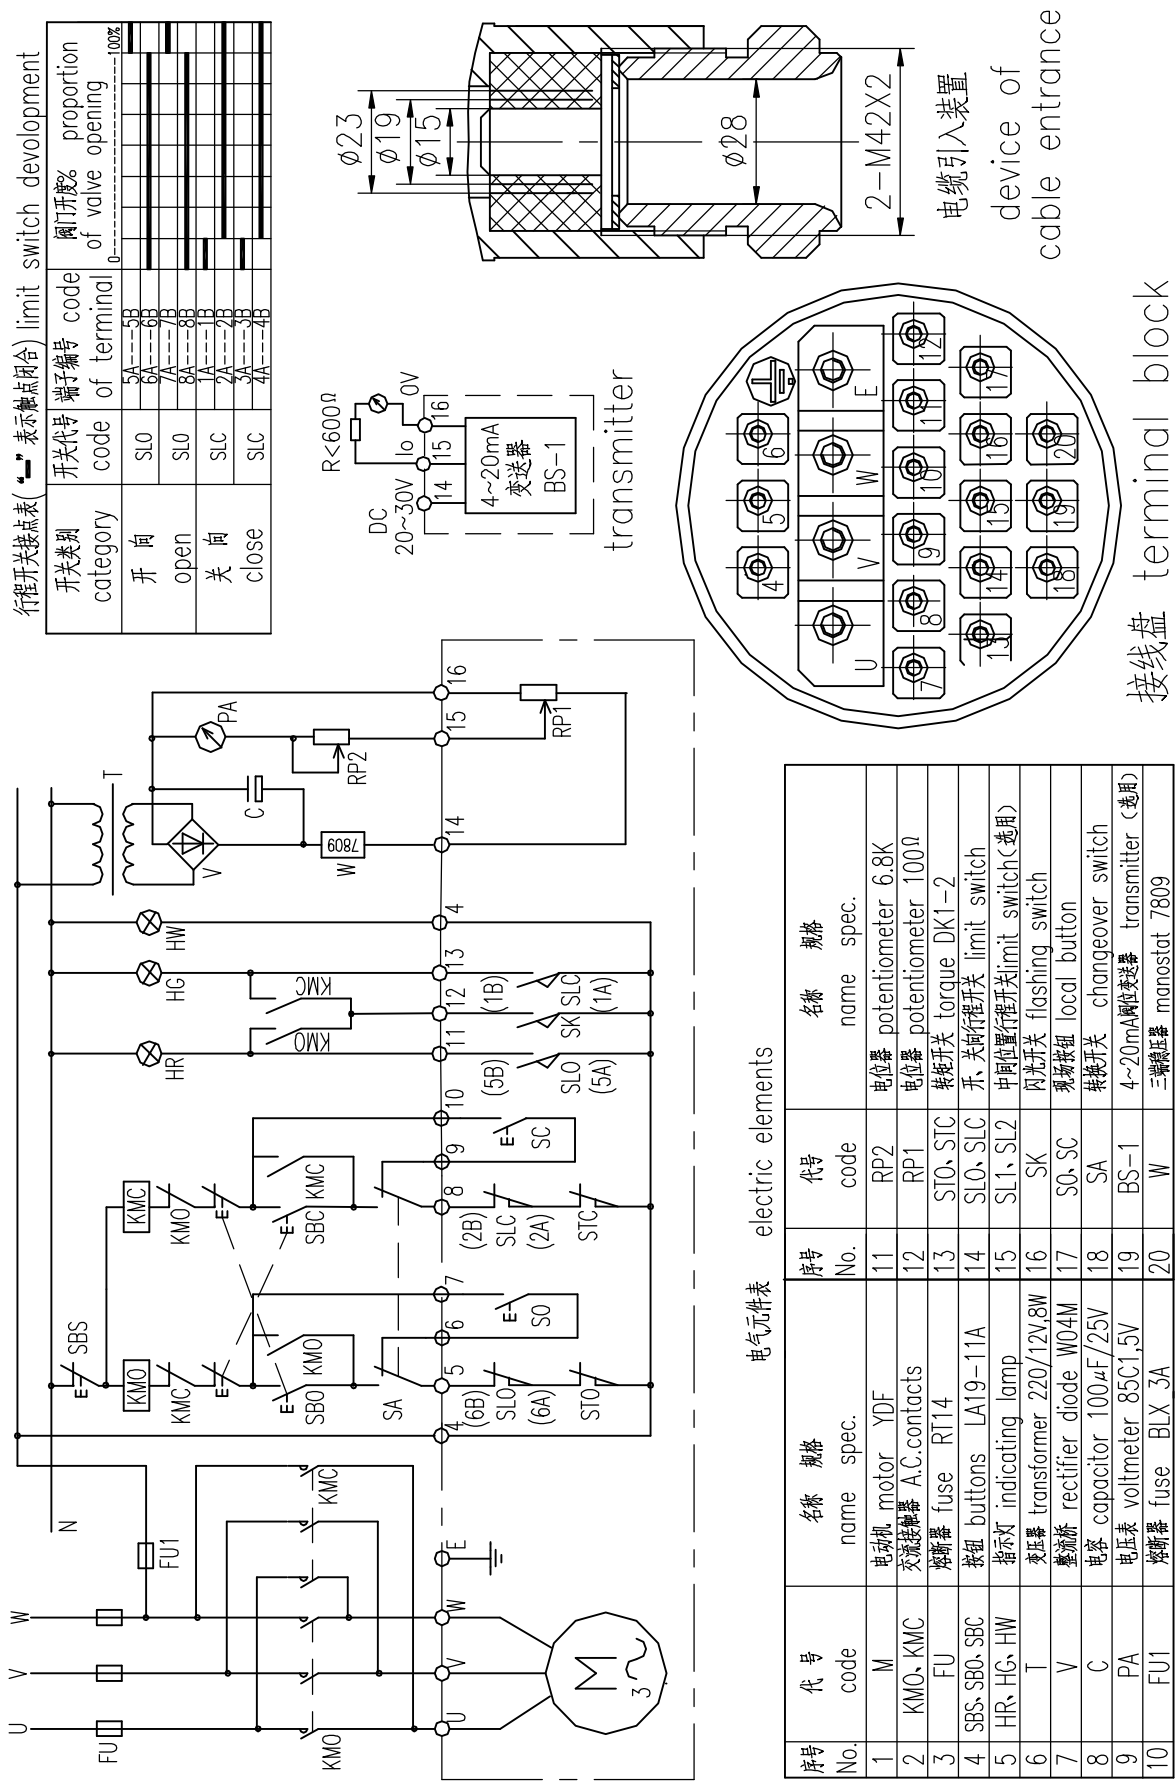

图 5 电气原理和接线 Fig. 5 schematic diagram and wiring diagram
1. 电气原理及接线见图 5。具体控制线路由用户自行选择，这里提供的电气原理图仅供参考。
For schematic diagram and wiring diagram, see Fig.5. Electric skeleton diagram here is for reference only. Concrete control circuit is decided by user.
3. 接线盒有两个电缆引入装置，通常一个引入电机电力电缆，另一个引入控制电缆。电缆直径可选（见图 5）。使用的电力电缆必须有地线。
There are two conduits on electric compartment, one for power cable and the other for control cable. The dia. of cable may be chosen (see Fig. 5). Power cable must be provided with earth wire.